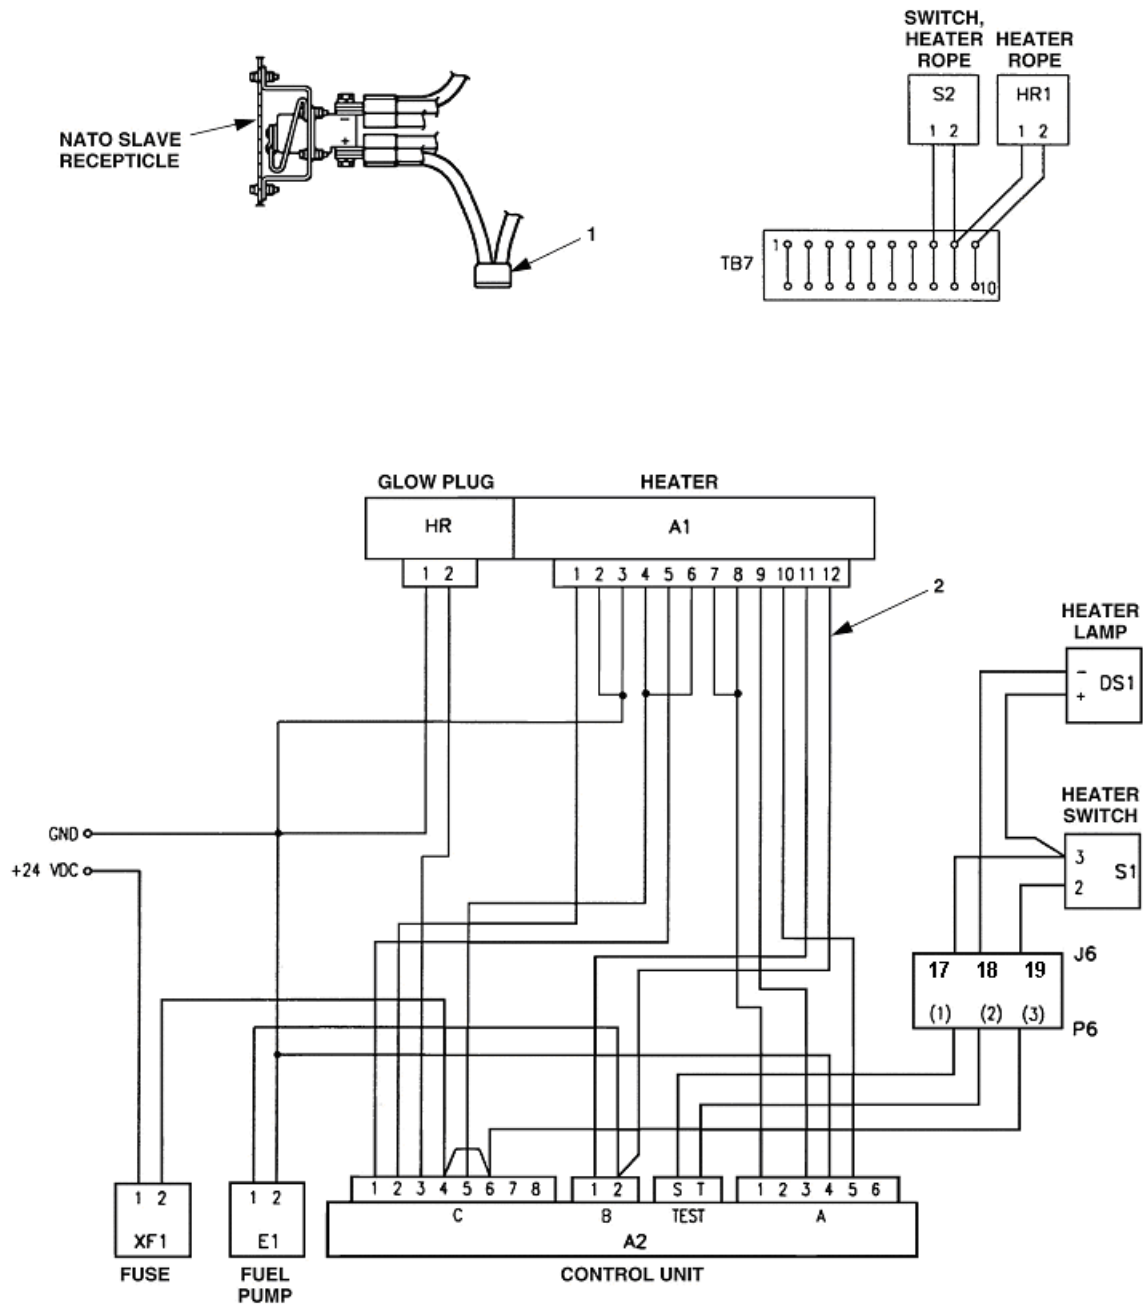
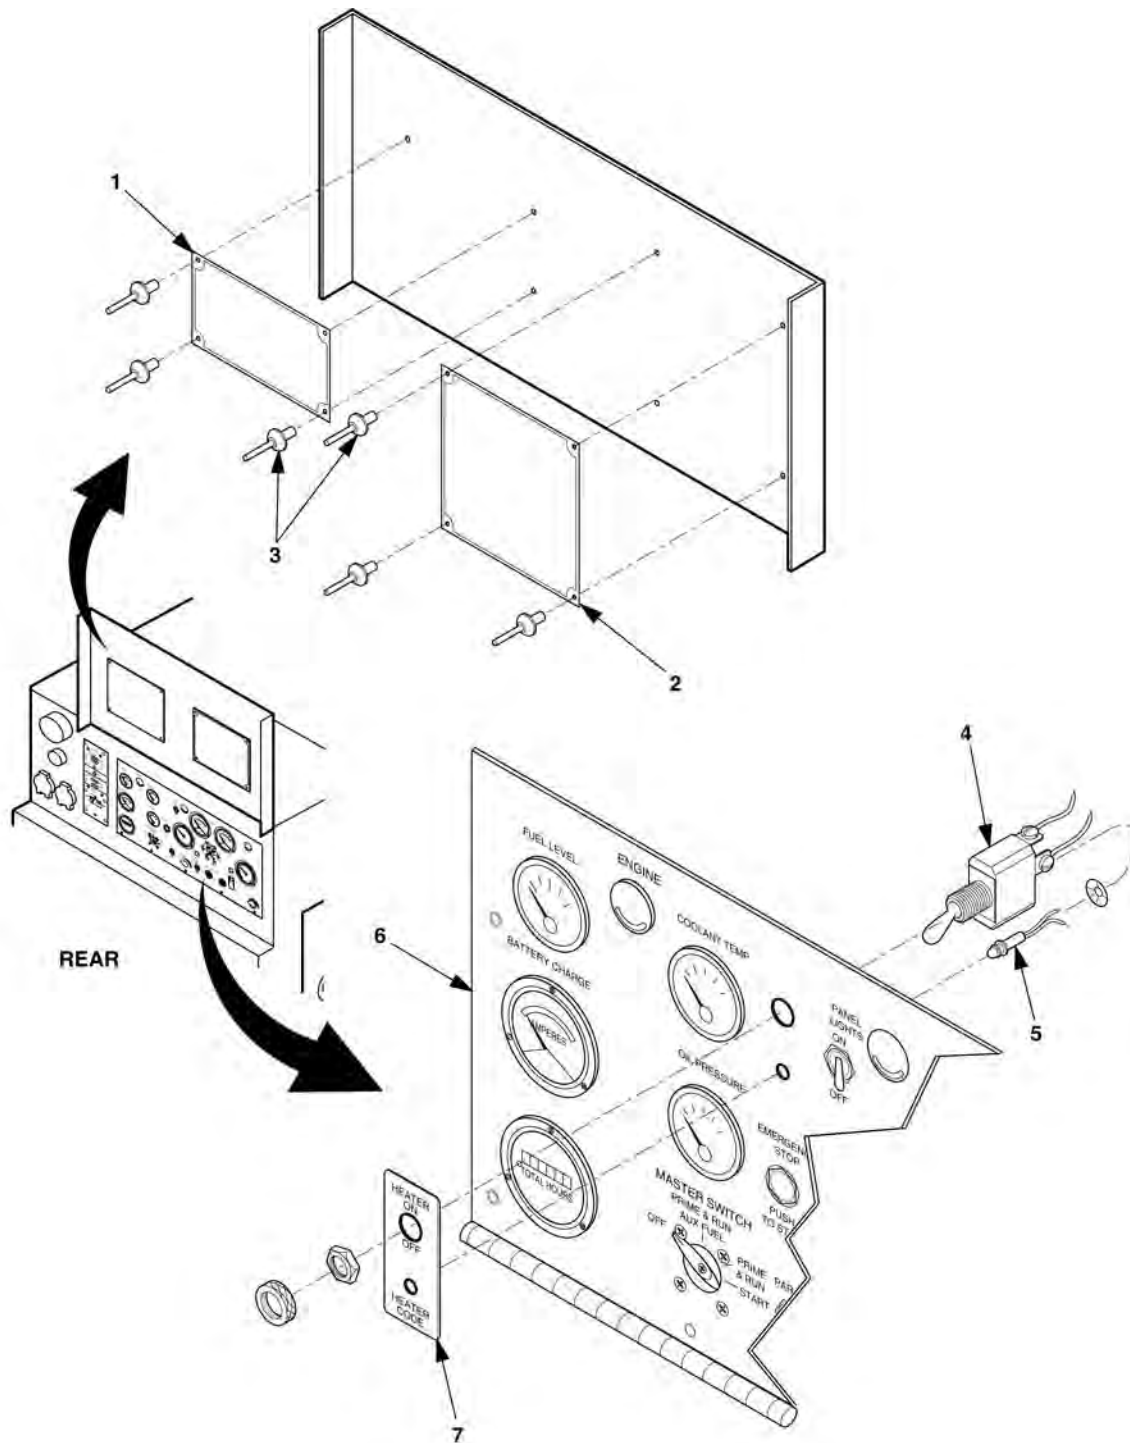
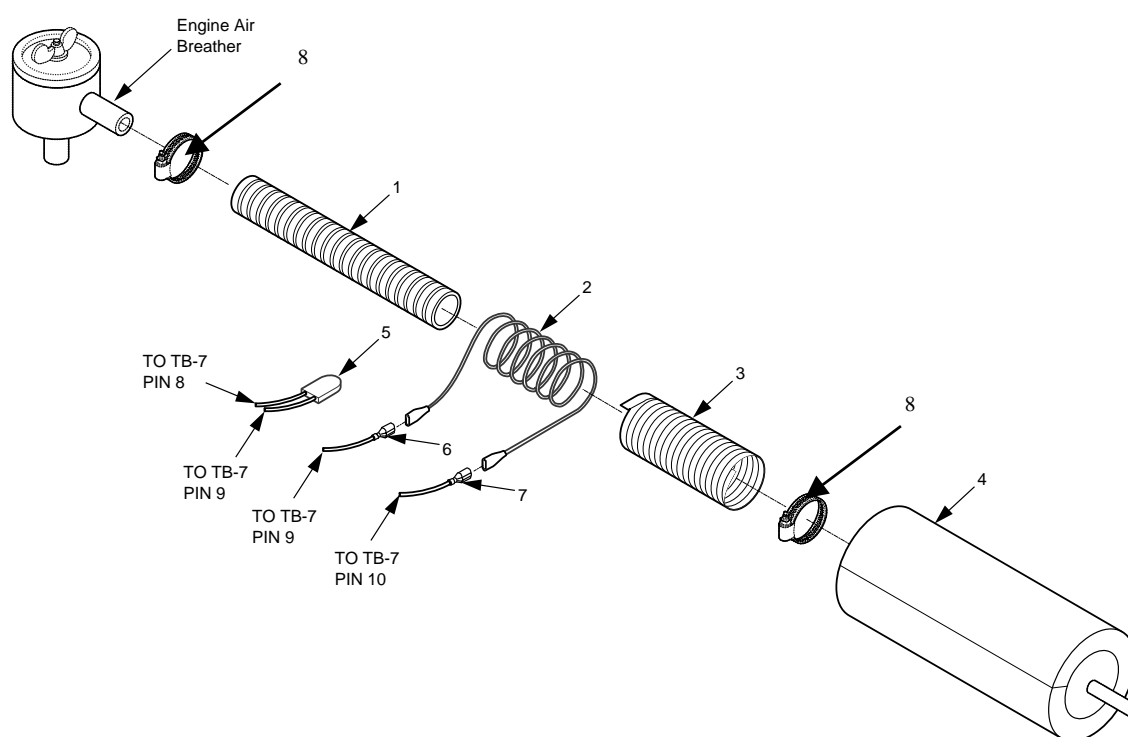

Figure 5-3. Wiring Harness Assembly
Figure 5-9. Cover and Instrument Panel Assembly.
Figure 5-10. Breather Tube Heater Assembly
7. Attach wiring harness (2), Figure 5-3, to heater in accordance with wiring diagram.
29. Remove wire 172D from P6-18 and tie back in harness with straps provided in kit. Refer to Figure 5-3.
31. Install wiring harness in accordance with wiring diagram Figure 5-3. Secure harness with straps contained in kit.
32. Connect fuse holder wire, part of (2), Figure 5-3, to (+) terminal of the slave receptacle. Install fuse F1 into fuse holder (1).
33. Mount fuse holder (1) to inside battery access door below the slave receptacle and about 1-½ inches to the right. Using hardware contained in kit.
35. Locate operating instruction plate(1), Figure 5-9, and heater function code plate (2). Then, drill holes in control panel access door. Plates shall be readable when door is open.
36. Install rivets (3) contained in kit. Rivet heads shall be on the outside of the unit.
38. Locate heater switch label (7), Figure 5-9, with existing hole for switch and drill hole in control panel for the light indicator.
39. Install heater switch label (7), toggle switch (4) and indicator light (5).
42. Install electrical leads in accordance with wiring diagram Figure 5-3. Secure leads with straps contained in kit.
43. Remove clamps (8), Figure 5-10, and discard hose from crankcase breather air intake tube in accordance with TM 9-6115-645-24. Wrap rope heater (2) assembly spirally on new air breather hose (1) provided in kit approximately five (5) revolutions, leaving approximately six (6) inches of rope heater (2) on each end of hose. Wrap rope heater (2) and air breather hose (1) with foil tape (3) provided in kit. Install pipe insulation (4) over air breather hose (1), rope heater (2), and foil tape (3), leaving rope heater wires exposed for electrical connection. Install assembled air breather hose (1) between crankcase breather and air intake hose. Secure air breather hose (1) with clamps (8) removed from above.
44. Install Rope Heater to TB-7, HR1 inside output box and electrical leads in accordance with wiring diagram, Figure 5-3. Secure leads (6 and 7), Figure 5-10, with straps contained in kit.
45. Install thermostat assembly (5), Figure 5-10, to TB-7 pins 8 and 9.
53. With engine running, start heater. Check the heater code light (5), Figure 5-9, per the heater function codes plate (2), for heater operation.
56. Locate identification plate (2), Figure 5-9, below existing plates on left side of front housing. Match and drill holes in housing and install four rivets contained in kit. Refer to TM 9-6115-645-24.